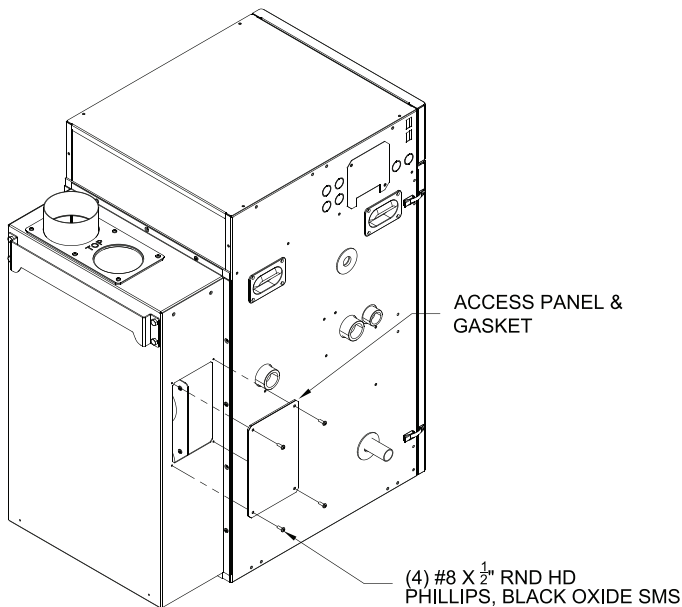

Figure 2E: Access Panel and Gasket Installation
- n. After the boiler has been piped, wired, connected to vent and combustion air system piping and combustion performance testing completed per Section IX “System Start-up”, install Access Panel/Gasket assembly and secure with provided four #8 x 1/2 in. black oxide Phillips head sheet metal screws. See Figure 2E “Access Panel and Gasket Installation”.